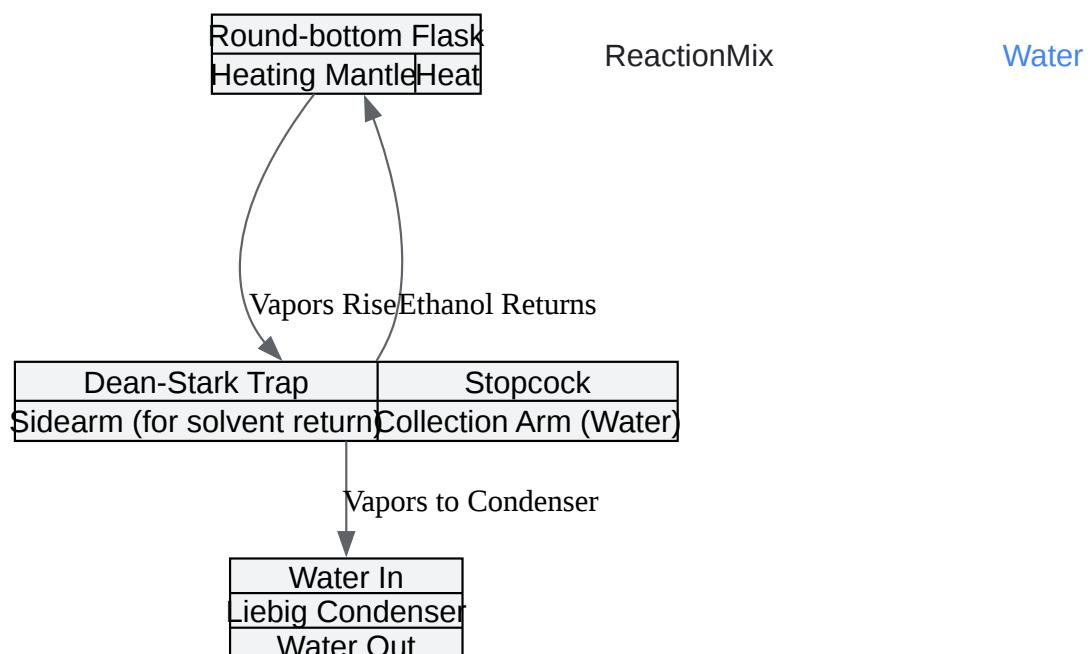

Figure 2: Recommended Reflux Setup with Dean-Stark Trap
Caption: Figure 2: Recommended Reflux Setup with Dean-Stark Trap.
- Setup: Assemble the reflux apparatus with a Dean-Stark trap as shown in Figure 2. Fill the trap with ethanol before starting.